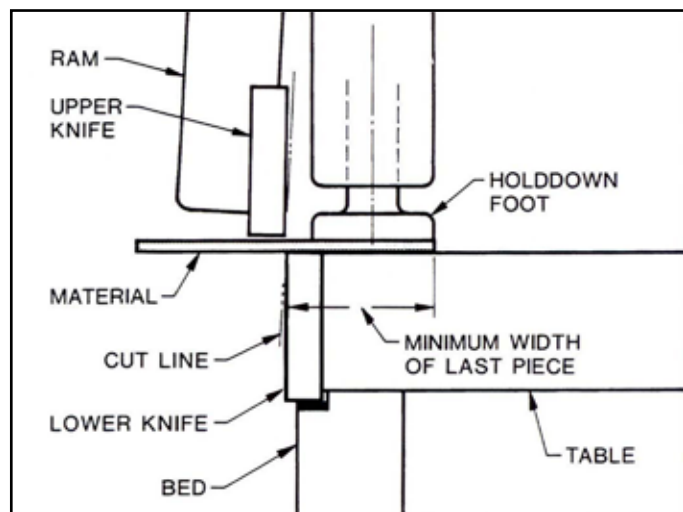

Figure 5-1 - Clamping Material
3. All CINCINNATI Shears are equipped with hydraulic holddowns which clamp the material being sheared to prevent movement or "tip-up" during shearing. CINCINNATI recommends that the material be clamped by as many holddowns as possible, at least two or more. The minimum width of material on the table should be such that it will be clamped by the full diameter of the holddown foot. This width will be different for each size shear, and should be equal to or greater than the distance from the cutting edge of the lower knife to the outer edge of the holddown foot. See Figure 5-1.